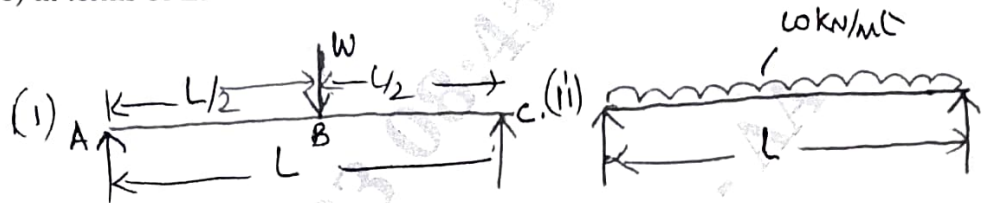

Fig. Q6 (b)
- b. For the sketches shown below determine the max. deflection and max slope. Refer Fig. Q6 (b) in terms of EI (10 Marks)